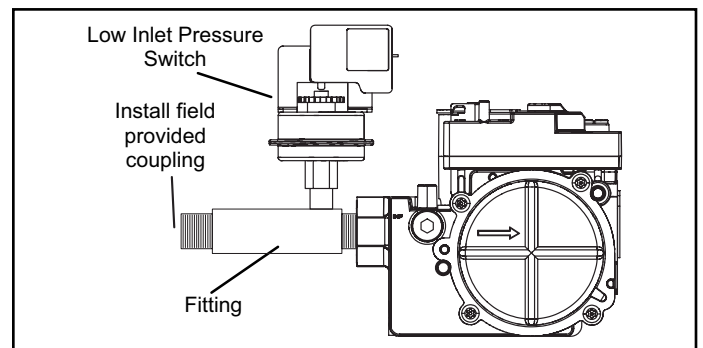
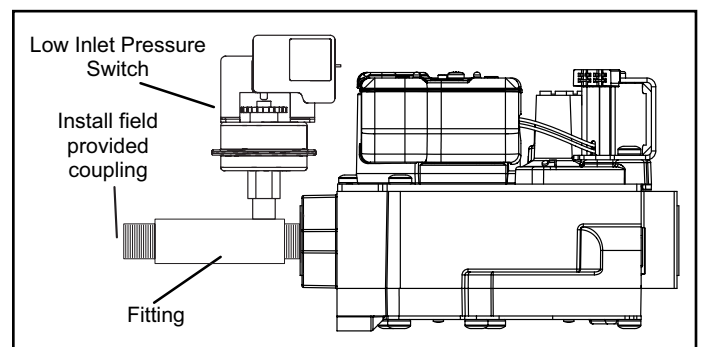
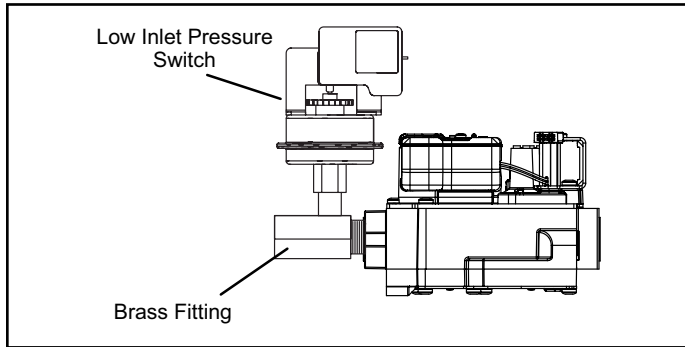

Figure 8. Thread Gas Supply (White Rodgers Gas Valve)
Figure 9. Thread Gas Supply (Resideo Gas Valve)
Figure 11. Gas Valve with Low Inlet Pressure Switch (Resideo Gas Valve)
9. Thread provided fitting to gas valve inlet until hand tight. Using properly sized wrench, tighten fitting 2 to 3 full turns being careful to position the side port to allow clearance for the pressure switch and harness. See Figure 8 through Figure 11.
NOTE: *Some installations may require the pressure switch and fitting assembly to be positioned differently than shown in Figure 8 through Figure 11.*
10. Thread the gas supply to the fitting until hand tight. A field provided coupling may be needed. See Figure 8 or Figure 9. Using properly sized wrench to support fitting, tighten supply line into fitting 2 to 3 full turns to achieve leak free joint.